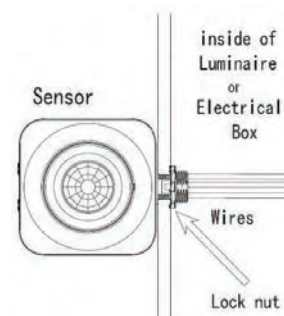

Fig 2A
2. Slide the lock-nut over the wires and thread clockwise on to the threaded nipple to secure the sensor firmly in place making sure the lens is orientated towards the area to be monitored (-field-of-view). (refer to Fig 2A)